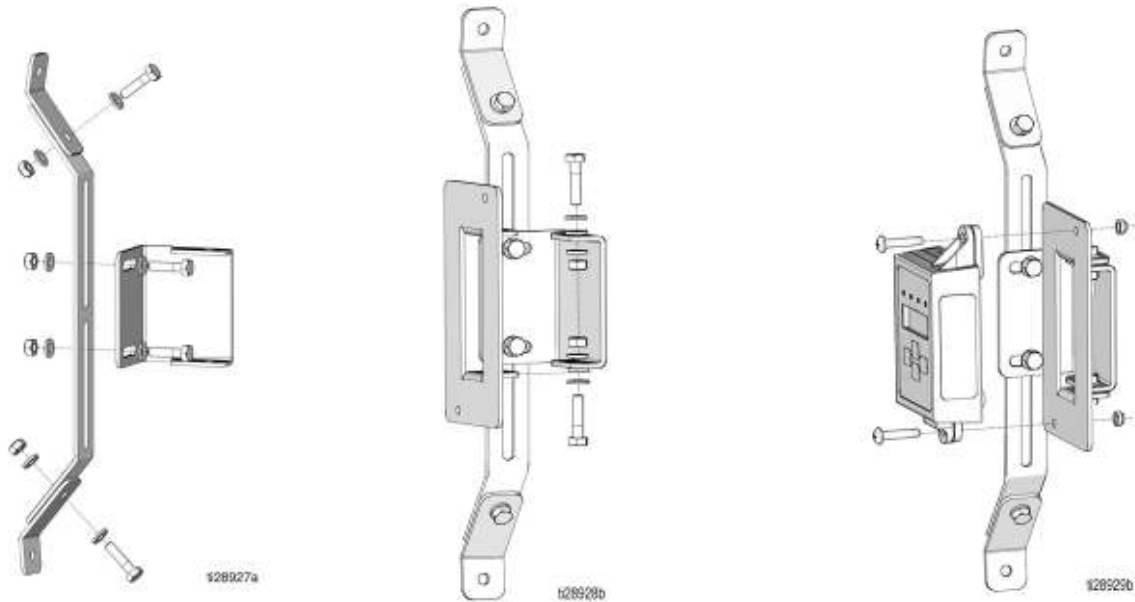

FIG. 16
**NOTE:** All parts included in the mounting bracket kit may not be required for the installation. The bracket assembly shown in FIG. 16 is provided as a guide. The bracket is designed to be assembled in several configurations. Assemble the parts as needed to best accommodate the installation.
**NOTE:** FIG. 16 is only provided as a guide. Parts can be rotated to best suit the installation location and to provide optimal orientation for operator access inside the cab.